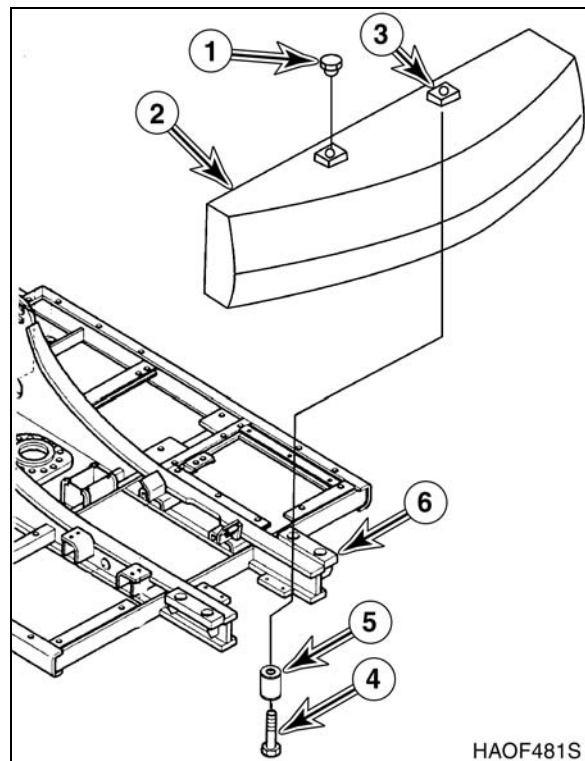

Figure 5
13. Remove two caps (1, Figure 5) from counterweight (2).
14. Install two lifting eyes in lifting holes (3, Figure 5).
15. Using a suitable lifting device capable of handling load, partially support counterweight (2, Figure 5) before beginning to loosen four bolts (4). Stop lifting with assist crane as soon as lifting slings are taut.
16. Remove four bolts (4, Figure 5) and spacers/washers (5) from counterweight (2).
17. When bolts (4, Figure 5) and spacers/washers (5) have been removed, lift counterweight (2) a very short distance above support frame (6) and stop. Check slings and make sure counterweight is being supported evenly.